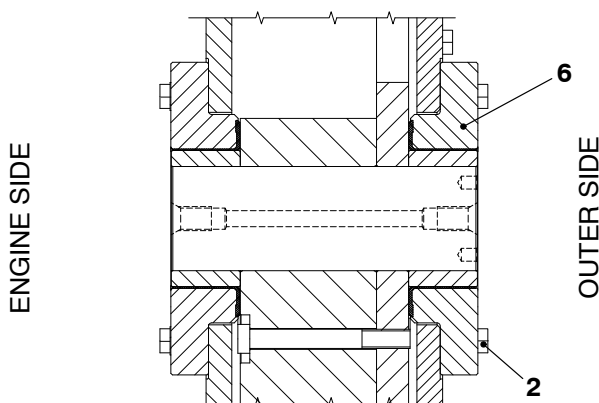

Fig. 10
- 5) Operate the crane to move the bearing (6) in front of the pin (3).
- 6) Apply Loctite No. 640 to the surface of the bearing (6).
- 7) Apply Molykote D to the surface of the pin (3).
- 8) Install the screw (4) together with the nut (5) through the bearing (6) into the pin (3).
- 9) Remove screw (2).
- 10) Align the taper pin holes with the cover (1).
- 11) Turn the bearing (6) until the pin holes in the bearing are at 90° to the holes in the column (1).
- 12) Tighten the nut (5) and move the bearing (6) to the correct position on the column (1) (STEP B).
- Note: Operate the crane if the pin (3) is too low.**
- 14) Install four (of the eight) bolts M20x70 (2, Fig. 10) in position. Do not tighten the four bolts at this step.